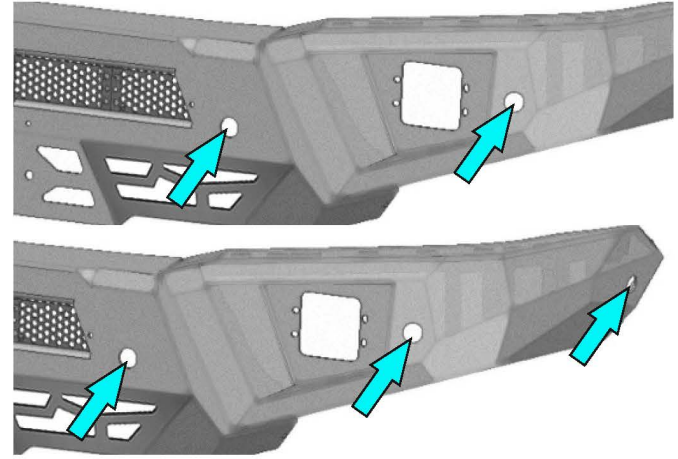

Fig.45
45. In case if your vehicle has 4 parking sensors, hammer out 4 plugs, on assembled bumper, placed closer to center. If your vehicle has 6 parking sensors, then hammer out all plugs of the bumper as shown in fig 45.